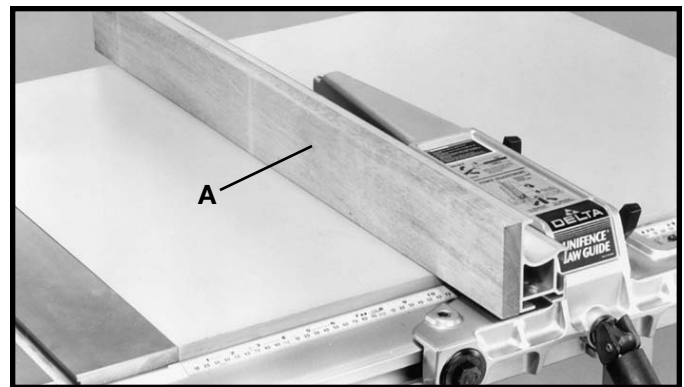

Fig. 87
It is necessary when performing special operations such as when using the moulding cutterhead to add wood facing (A) Fig. 87, to one side of the rip fence as shown. The wood facing is attached to the fence with wood screws through holes you drill in the fence. A suitable stock size for most work is 3/4", although an occasional job may require one inch facing.